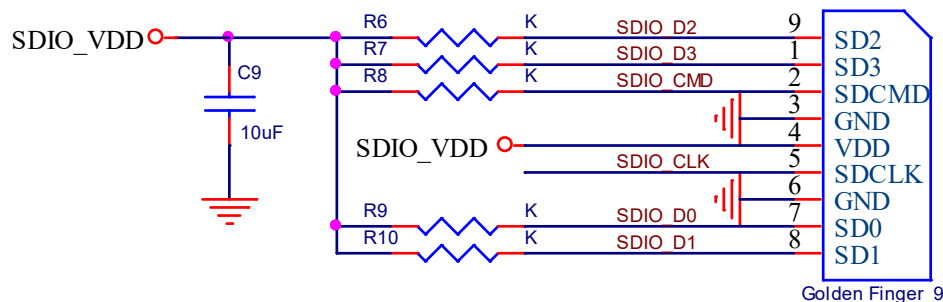

Figure3. WiFi verification connection interface to Host SDIO
- ❖ Refer to Figure3 SDIO pin definition connects the J3 interface of AP6181 evaluation board to Host SDIO control interface.